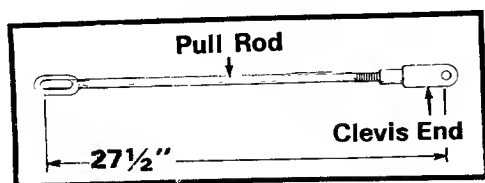

Figure 4
1. Adjust the clevis ends on both pull rods so that they measure 27 1/2 inches. (See figure 4.)